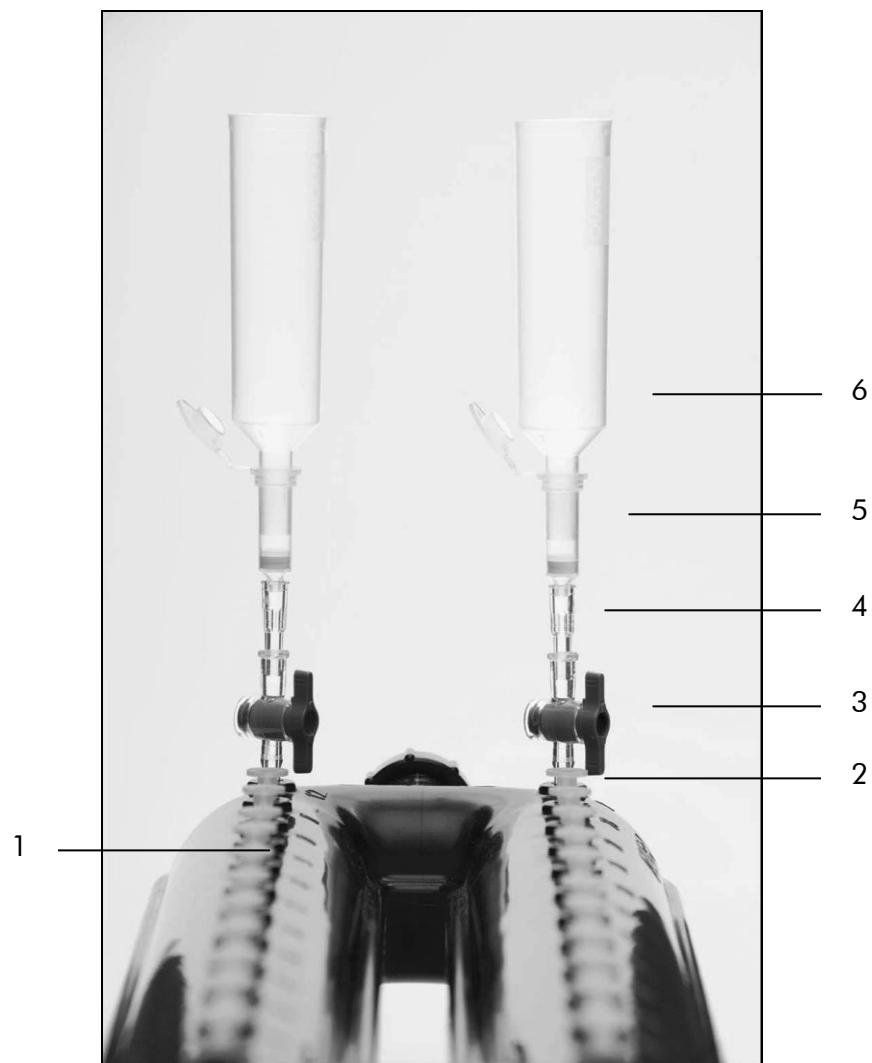

Figure 2. Setting up the QIAvac 24 Plus with QIAamp UCP Mini columns using VacValves, VacConnectors, and Tube Extenders.
- 2. Insert a VacValve (optional) into each luer slot of the QIAvac 24 Plus that is to be used (see Figure 2). Close unused luer slots with luer plugs or close the inserted VacValve.**
- 3. Insert a VacConnector into each VacValve (see Figure 2).**
- 4. Place the QIAamp UCP Mini columns into the VacConnectors on the manifold (see Figure 2).**
- 5. Insert a tube extender (20 ml) into each QIAamp UCP Mini column (see Figure 2).**